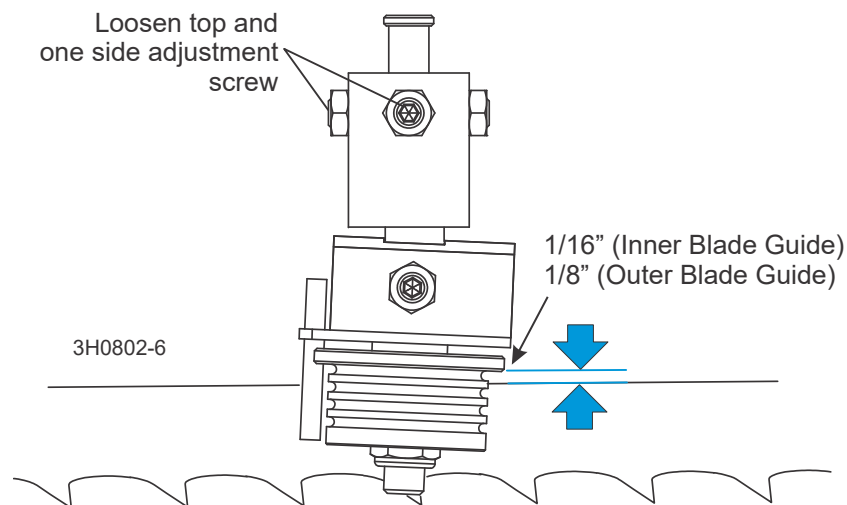

FIG. 8-19
See Figure 8-19.
6. Ensure that the distance between the flange on the outer blade guide roller to the back edge of the blade measures to 1/16" (1.5 mm). (See Figure 8-19.)